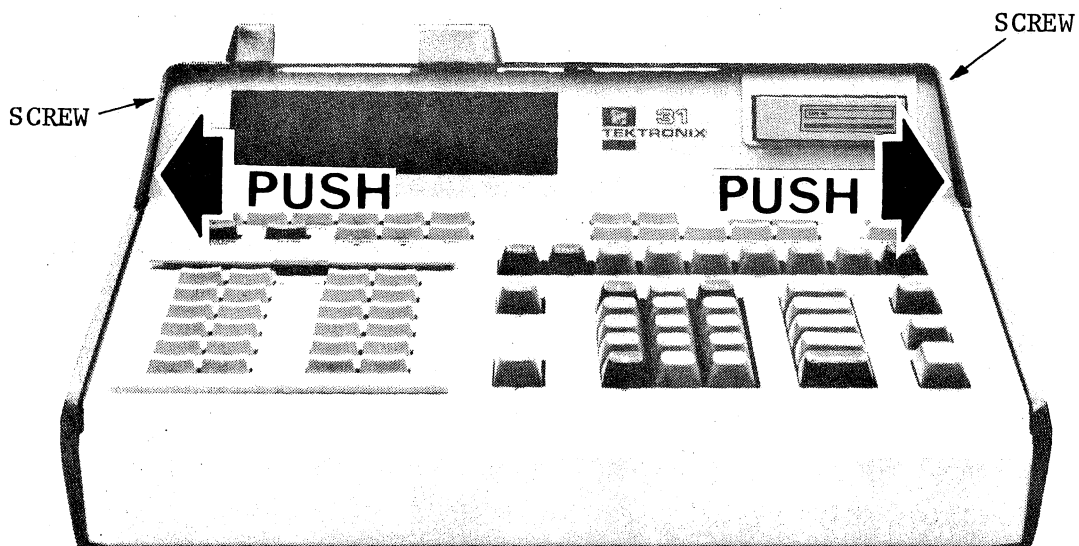

Fig. 5-1.
- b. Release the top cover plate by springing out the vertical surfaces of the top cover plate as shown shown below. (See Fig. 5-1).